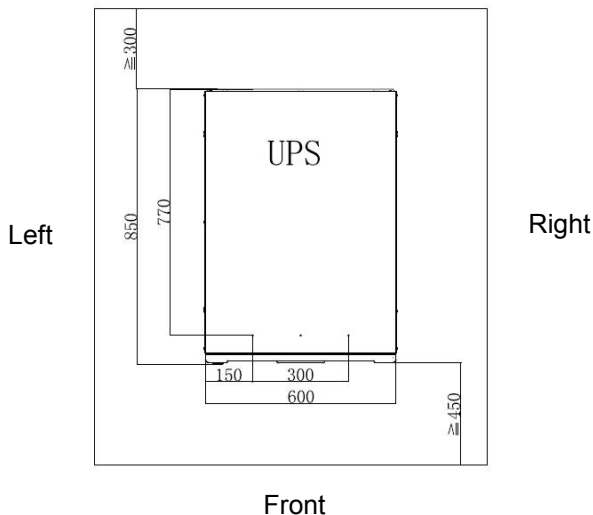
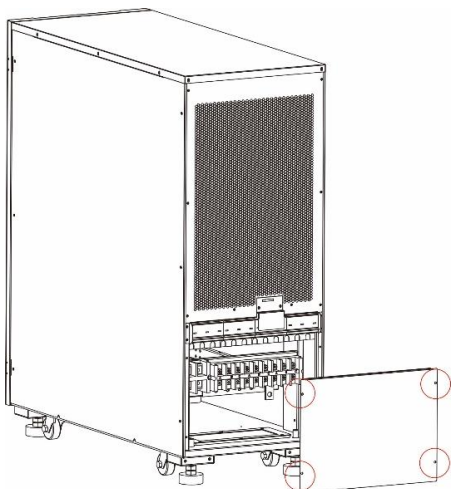

Fig. 3-6 Hole size of 160/200 kVA
Fig. 3-7 Remove the cover of distribution unit (40/60 kVA)
Step 7: turn the wrench counterclockwise to raise the four support feet at the bottom of UPS until all the four wheels at the bottom of the case are evenly landed and the support feet are completely suspended. See Fig. 3-7.
- Step 5: open the front door and remove the cover panel of the distribution unit, as shown in Fig. 3-6 and Fig. 3-7.
- Step 1: remove the cover plate of distribution unit (80/100/120/160/200kVA) need to open the front door first), as shown in Fig. 3-6 and Fig. 3-7.